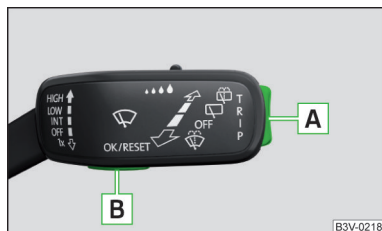
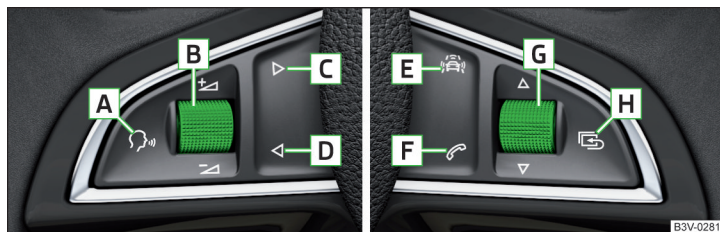

Fig. 32
Fig. 33 Buttons / dials: on the multifunction steering wheel
▶ Press and hold the button  on the operating lever » Fig. 32 on page 46.
▶ Press and hold the dial  on the multifunction steering wheel » Fig. 33 on page 46.
The menus can be opened using the buttons on the control lever » Fig. 32 on page 46 or on the multi-function steering wheel » Fig. 33 on page 46.
Then turn dial [G] » Fig. 33 on page 46 on the multifunction steering wheel to display the **Last destinations** menu.
➤ Turn dial [G] » Fig. 33 on page 46.